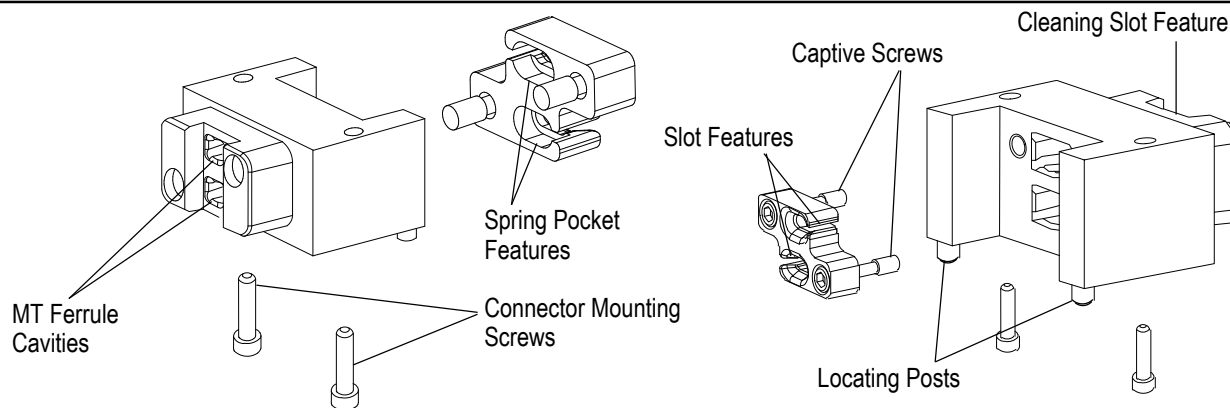

Figure 3
**B. Plug (Module) Connector Kit** (Figure 3)